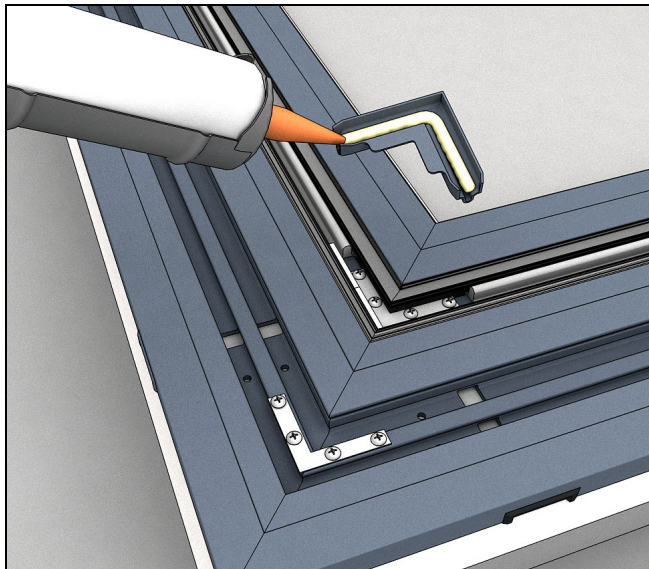

Figure 26
6. Install the sill corner key cover. See Figure 26.